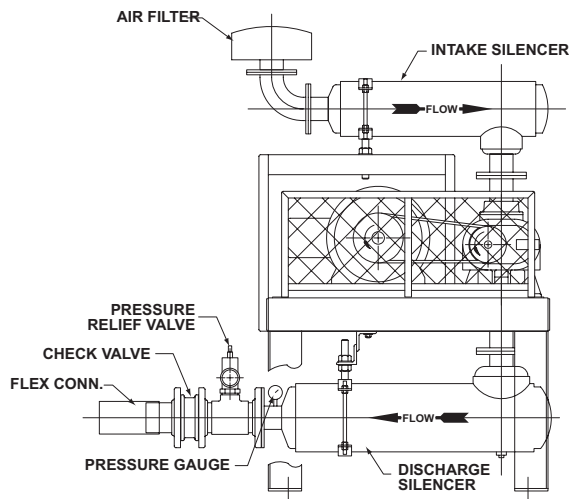

Figure 5-1 – Typical Blower Installation
**Figure 5-1** shows a typical complete installation of blower and accessories. Note the absence of throttle or shut-off valves in both discharge and intake piping. If it is possible for air flow to be cut off in either line, add a pressure and/or vacuum relief valve. In some installations, it may be desirable to use only an inlet silencer-cleaner supported directly from the blower connection. Keep the weight of accessories and piping to a minimum to prevent blower casing distortion. If the weight exceeds 10% of blower weight, support the components independently of the blower and connect them with a flexible hose or connectors. The approximate weights of the blowers are listed in **Table 4-1 on page 8** and **Table 4-2 on page 8**.